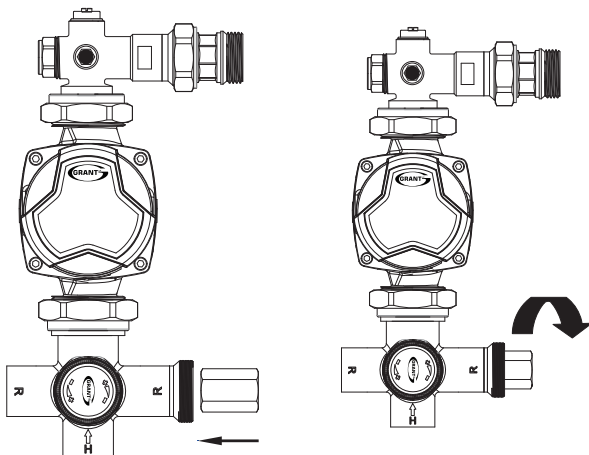

Figure 3-4: Remove threaded connector
2. Insert the supplied brass hexagonal key into the right side connector and rotate to remove from the 4-port blending valve. Refer to Figure 3-4.